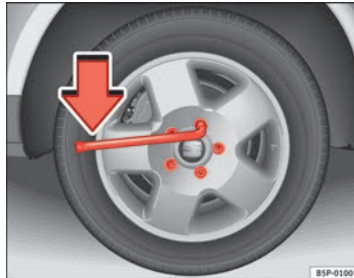

Fig. 182 Changing the wheel: Loosen the wheel bolts
- Grip the box spanner as close to the *end* as possible and turn the wheel bolts about *one* turn **anticlockwise** ⇒ Fig. 182 (arrow).